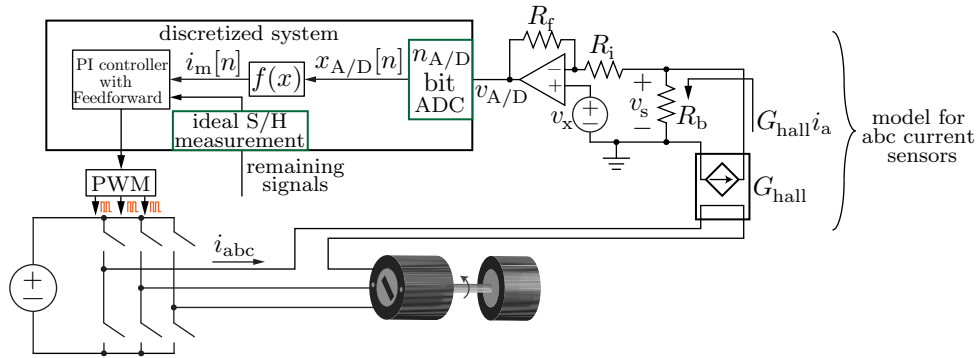

Figure 4: Motor drive with discretize controller along with sensing path scaling and circuitry.
We will model the LAH25-NP hall-effect sensor. This sensor outputs a current $G_{\text{hall}}i(t)$ where $G_{\text{hall}} = 1/1000 \text{ A/A}$ and i is the current flowing on one of the three phases (see Figure 4). The sensor current flows in a burden resistor $R_b = 75 \Omega$. The effective gain from the current i to op-amp input signal v_s is $G_s = G_{\text{hall}}R_b$. This sensor gives a zero dc offset at v_s (in handout $v_{\text{dc}} = 0$). The ADC pin voltage is $0 \leq v_{\text{A/D}} \leq V_{\text{FS}}$ where $V_{\text{FS}} = 3 \text{ V}$, the ADC has $n_{\text{A/D}} = 12$ bits, and $x_{\text{A/D}}$ is the integer produced by the ADC. Denote the maximum phase current as i_{pk} where $i_{\text{pk}} = 40 \text{ A}$. Only one sensing path is shown for clarity. All other measurements are ideal.
each time the carrier starts ramping up (we will do only valley sampling for this). Once this first step is done and the discretized system works with ideal sensing, begin modifying your model with the current sensor model in Figure 4. The objective of the sensing path design is to ensure:
- (b) **[10 Points]**: Given that the ADC has 12 bits, use your solution in part (a) to compute the factors m and b in the measurement recovery formula $i(t) \approx i_m[n] = mx_{A/D}[n] + b$. Add this to your simulation (see Figure 4) for each of the three current sensing paths.